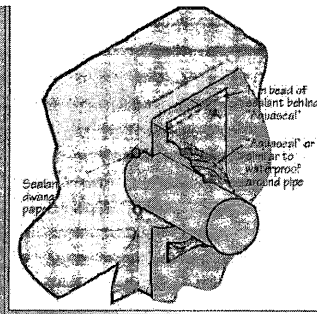

Figure 19. Proprietary seal at service penetration.
- (e) protect the sealant from sunlight by covering it with a close-fitting flange around the pipe or cable. An alternative to a rigid flange is a domed rubber fitting (like the one with the "Aqualseal" trade name) which is fixed with nails or screws against the cladding and fits tightly around the pipe. This product is suitable for wires and pipes from 3 to 63 mm diameter (Photo 34 and Figure 19).